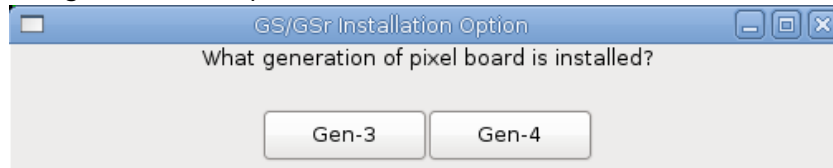

Figure 83: Pixel Board Generation Dialog Box
- 5. Upgrade process will ask user for confirmation to perform update, then begin upgrading Print-Side system software. During this process, user is prompted to specify how database should be updated, as shown in **Figure 83**. In almost all cases, user should select **Upgrade Database**.